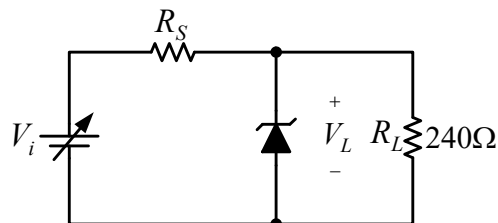

Fig. 7-11
2. Design the voltage regulator circuit of Fig. 7-11 to maintain V_L at 12 V across R_L with V_i that will vary between 16 and 20 V. That is, determine the proper value of R_S and the power rating of the zener diode (P_Z).